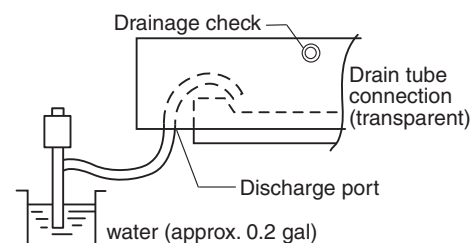

Fig. 3-68
- (1) Connect power to the power terminal board (R, S terminals) inside the electrical component box.
- (2) Slowly pour approx. 0.2 gal of water into the drain pan using a siphon pump through the air outlet grille. (Fig. 3-68)
- (3) Short the check pin (CHK) on the indoor control board and operate the drain pump. Check the water flow through the transparent drain pipe and see if there is any leakage.